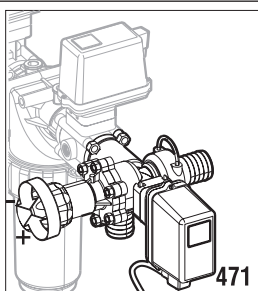

Fig. 9
5.1.2 Units with proportional valve (Fig. 9)